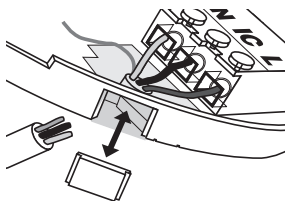

Fig.6
- (b) the mounting plate has a removable section, take it out to interface directly with 25mm conduit as shown in Figure 6. If interfacing to 16mm conduit carefully cut around the marked section, leaving the top intact and replace the section. (If you are not using surface wiring, the removable section must be left in place for electrical safety reasons).